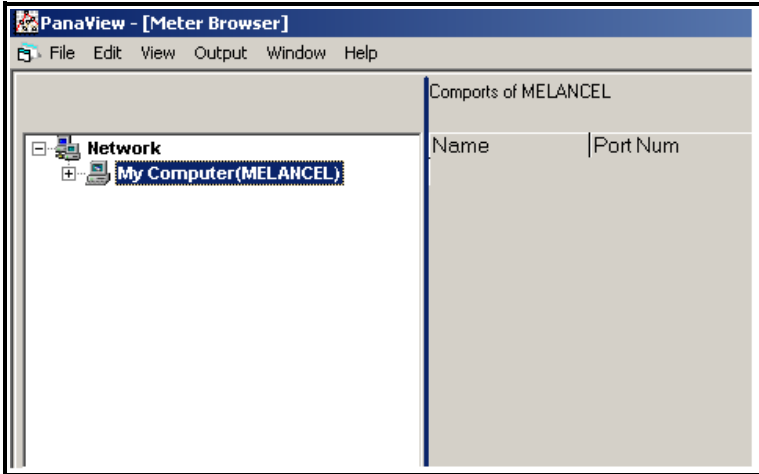

Figure 4-3: The My Computer Branch
1. Expand the *network* branch by clicking on the “+” sign to its left. Then, highlight the *My Computer(Name)* branch and the *Meter Browser* window will look like Figure 4-3 below.
Note: *The right pane in Figure 4-3 above lists all of the communication ports, along with their configuration parameters, that are currently assigned to the named computer. If this is the initial meter setup, the list is empty.*